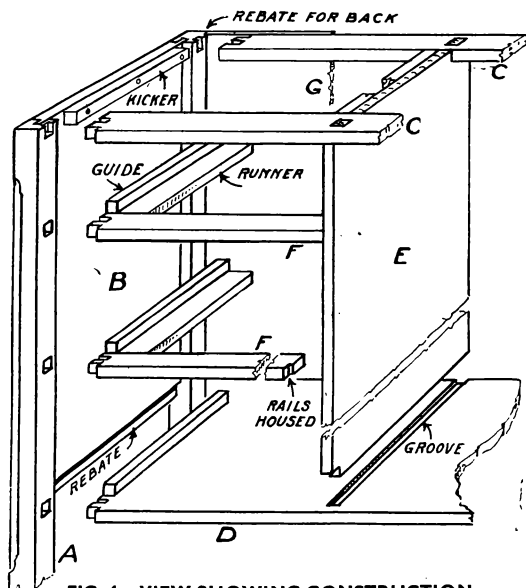

FIG. 4. VIEW SHOWING CONSTRUCTION.
Assembly (see Fig. 4).—Prepare parts (C, D, E and F). The bottom (D) is extended at sides to lie in the rebates cut in ends and is screwed from below. It is also tenoned to legs and grooved to take partition (E). This partition, jointed to width, is tenoned to top rails (C) which are dovetailed to legs. Drawer rails (F) are tenoned to legs at left and housed to partition. Add guides and runners as shown. Kickers will be required for top drawer. The plywood (or boarded, if preferred) back (G) is let into rebates cut in the rear legs, the rebates being stopped at underside of bottom.